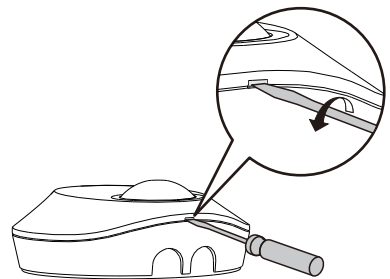

FIG.5
- 3.4.1.1 Use flat head screwdriver to take off the decorative cover (See FIG.5).